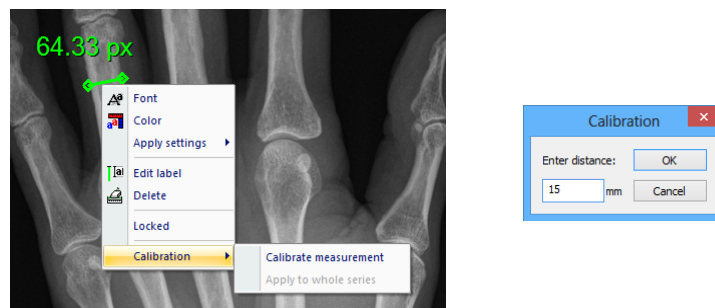

Figure 212 – Calibration context menu and the Calibration dialog
To activate calibration, select the **Calibration** item (see Figure 212) in the **Annotations** context menu, which is displayed by pressing the mouse context button on the Distance measurement.
- **Calibrate measurement** - to open the **Calibration** dialog in order to define the calibration (see Figure 212).